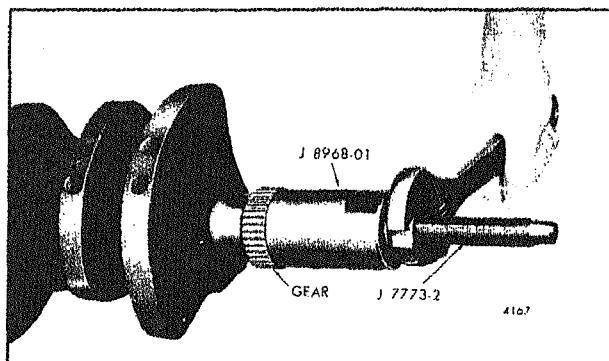

Fig. 8 - Installing Oil Pump Drive Gear
2. Position the drive gear installer J 8968-01 over the end of the crankshaft and against the drive gear and force the gear in place as shown in Fig. 8. When the end of the bore in the tool contacts the end of the crankshaft, the drive gear is correctly positioned.